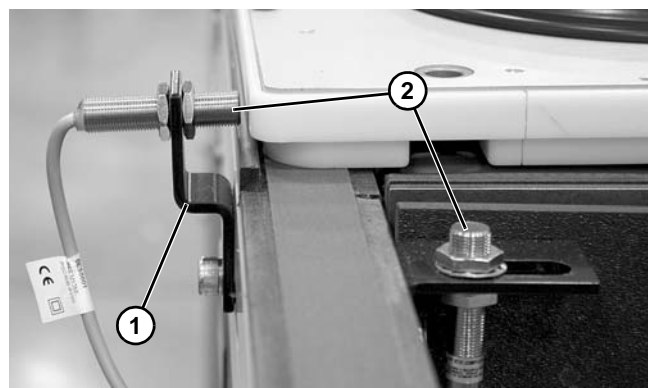

Figure 42
The Lift and Transfer unit only allows for sensing at the sides of the pallet. Sensing can be done from under the pallet before unit, though a delay will need to be programed in before allowing the lift to operate. Dorners side mount sensor brackets (**Figure 42, item 1**) can be used to mount a 12 mm barrel proximity sensor (**Figure 42, item 2**). See “Optional Sensors” on page 8.